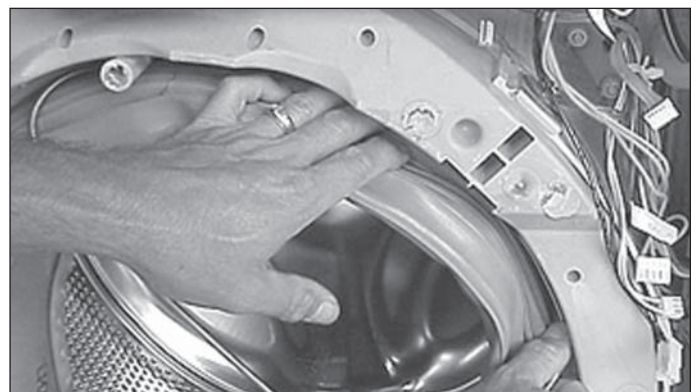

Figure 4-46.
9. Remove the wedge, unfold the bellows, and insert the advance rinsing technology hose and light socket on select models. (See Figure 4-46)